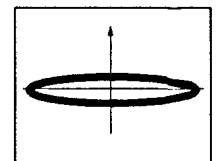

Fig. 2
4. Fine - adjust the grating so that the Y - axis amplitude of the Lissajous figure is minimized. (Fig. 2)
9. Re - open the TRKG servo and observe the Lissajous figure to check that the Y - axis amplitude is minimum. (Fig. 2) If the Y - axis amplitude of the Lissajous figure is larger than specified, repeat the adjustment procedures from steps 5 to 8.
10. After adjustment is complete, perform the adjustment in "8. Spindle Motor Centering Check" item 6.